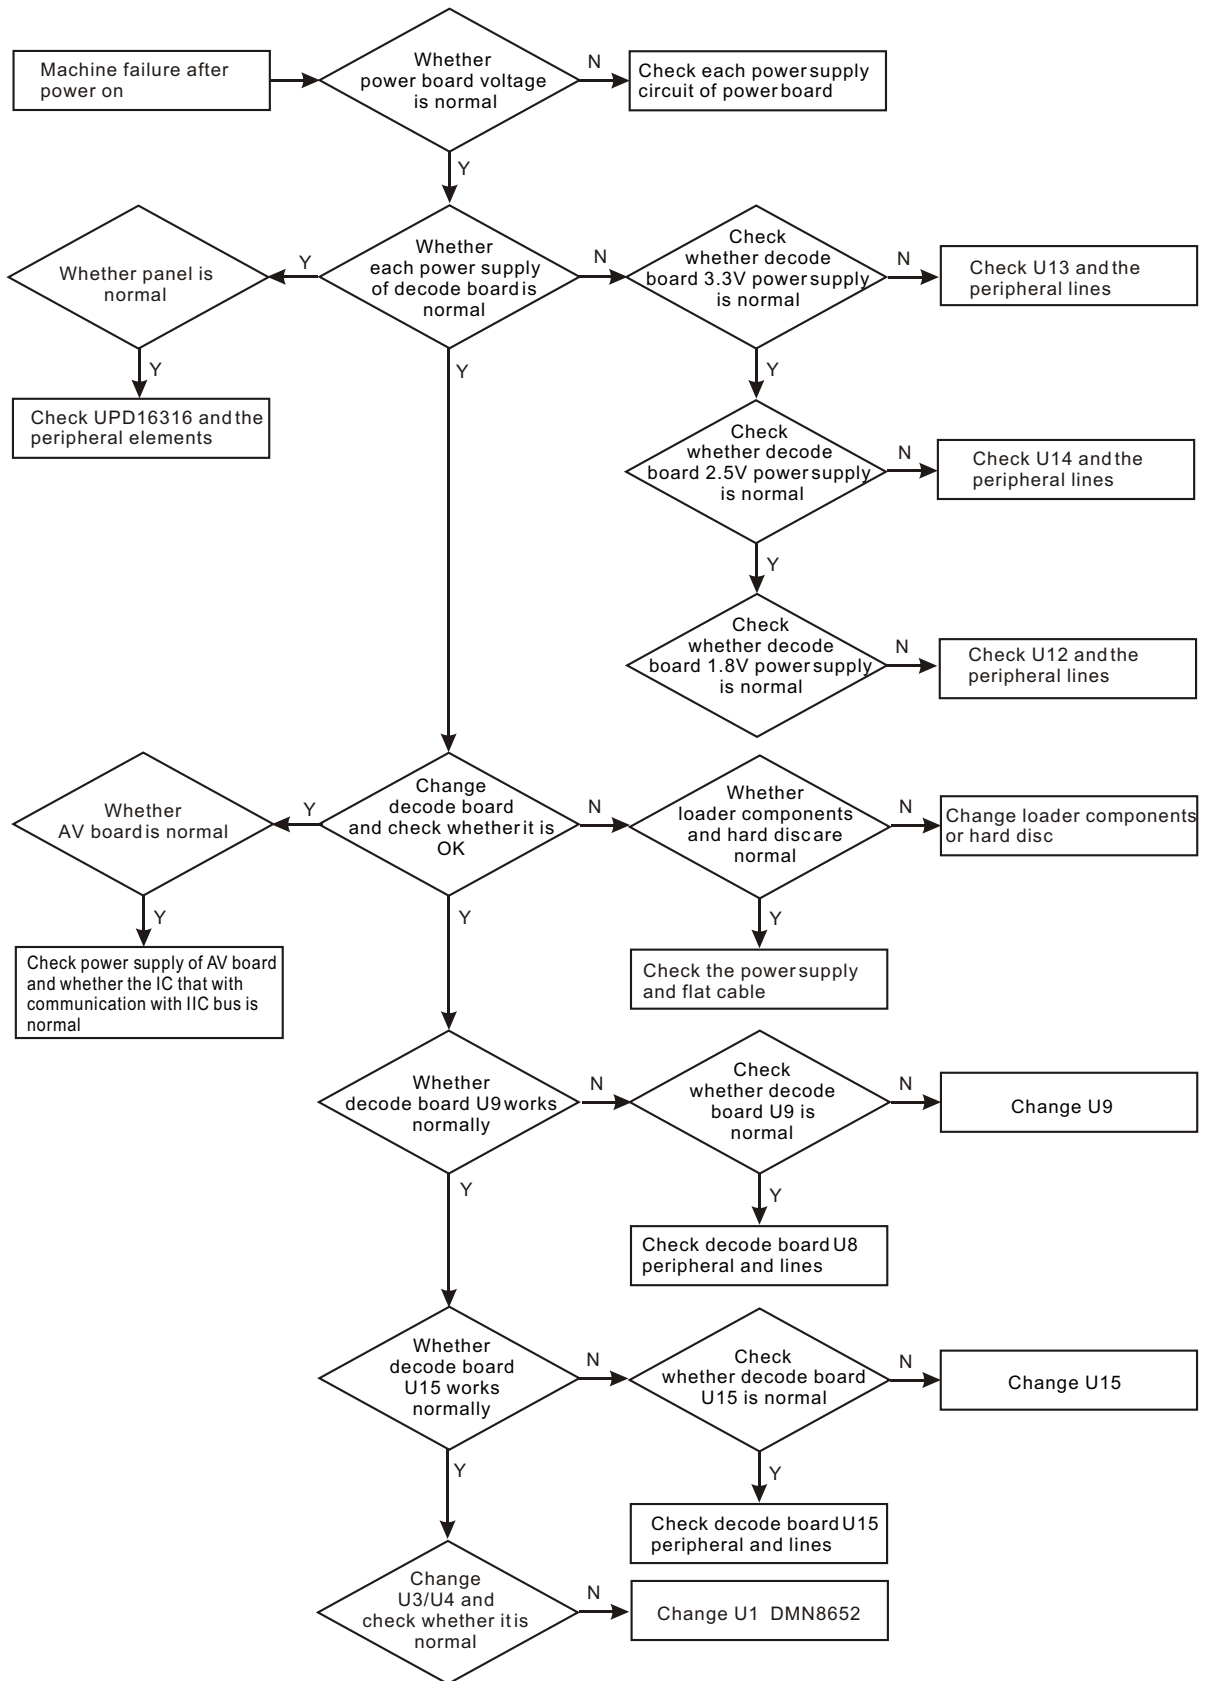

Figure 3.3.2.13 Troubleshooting flow chart for “Machine failure after power on”
14. Troubleshooting process for “Player has no output” (no power-on picture and no buttons function) is shown in the figure 3.3.2.14: